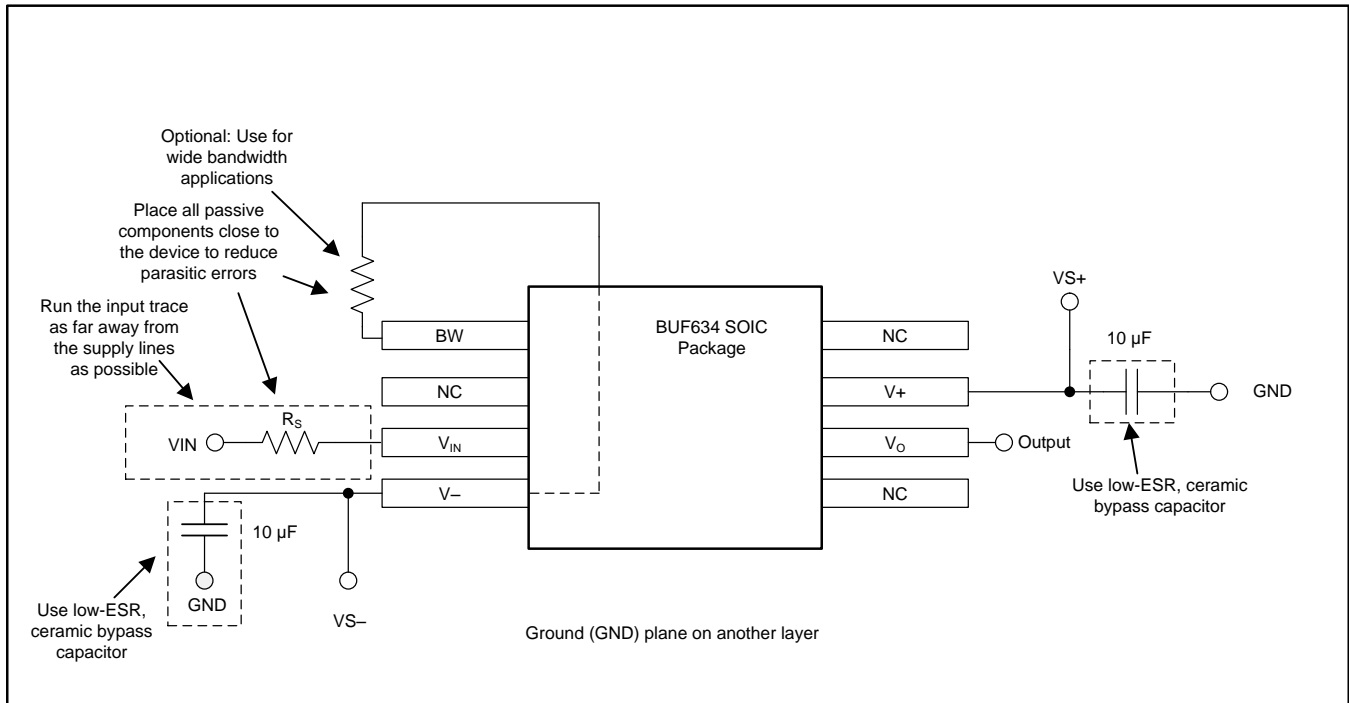

Figure 27. BUF634 Layout Example
- Place the external components as close to the device as possible. As illustrated in Figure 27